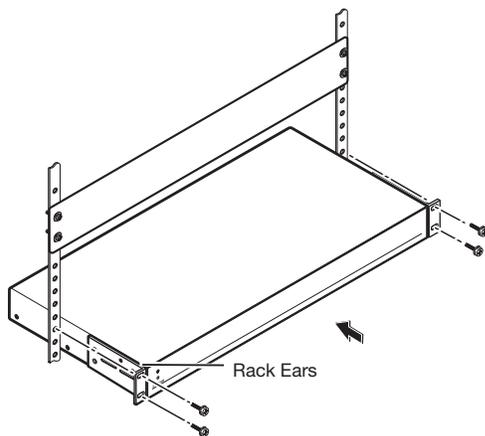

Figure 91. 1U Rack Mounting
Three reset options are available from this page (see figure 91, **1**):
1. Click the radio button of the desired reset option (see figure 91, **1**, on the previous page).